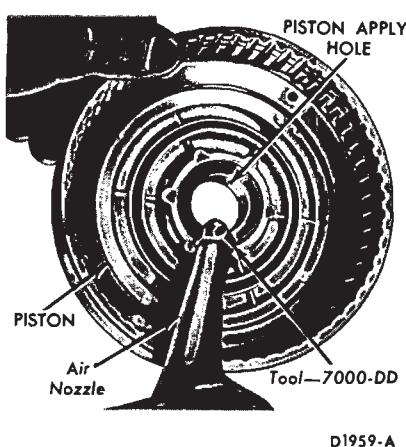

FIG. 35—Removing Front Clutch Piston
6. Install the special nozzle shown in Fig. 35 on an air hose. Place the nozzle against the clutch apply hole in the front clutch housing, and force the piston out of the housing.